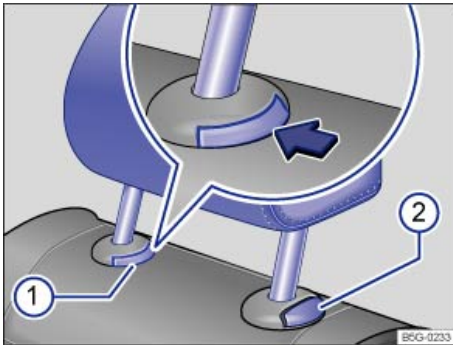
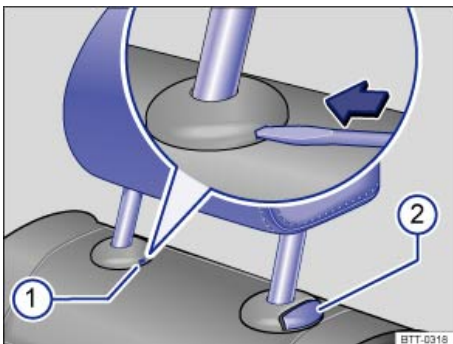

Fig. 42 Removing the rear head restraint (version A).
Fig. 43 Removing the rear head restraint (version B).
- Push button ⇒ fig. 42 \(1\) in the direction of the arrow and hold it in this position.
- At the same time press button (2) while a second person pulls out the head restraint completely.
- If necessary, press the flat blade of the screwdriver from the vehicle tool kit into the slit of the trim cap ⇒ fig. 43 \(2\) in the direction of the arrow and hold it in this position.
- Push the head restraint down while pressing button ⇒ fig. 42 \(2\) or ⇒ fig. 43 \(2\).